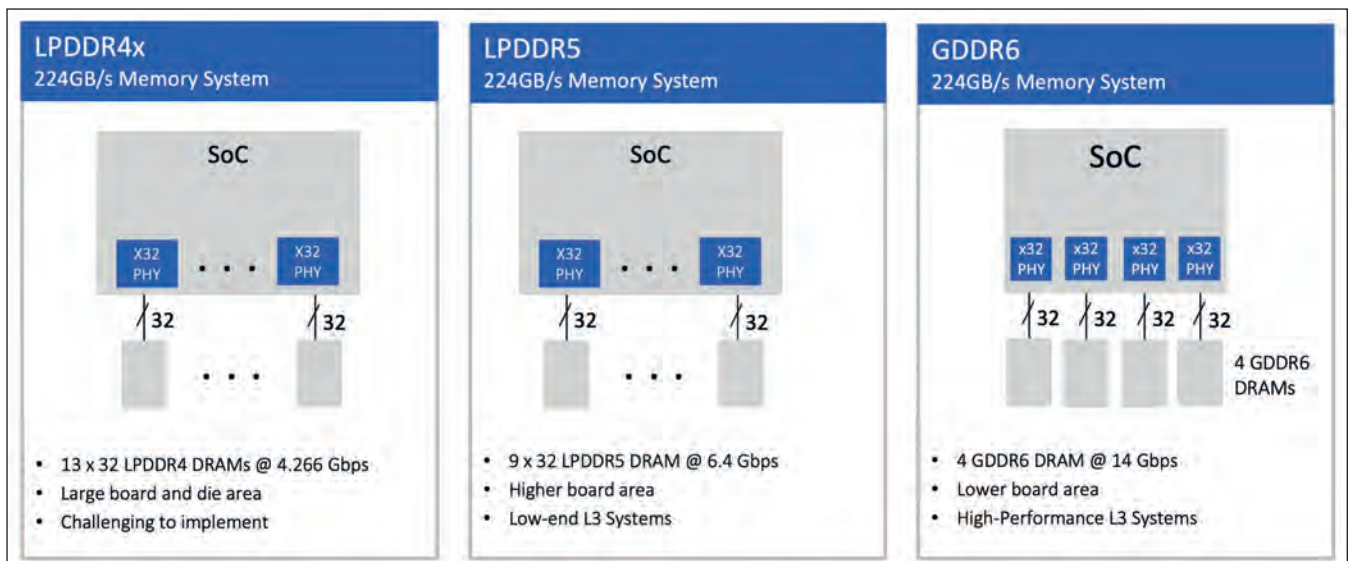

Figure 2: L3 ADAS Memory System Implementation Examples. Source: Rambus
Figure 2 provides options for memory system configurations capable of delivering level 3 ADAS implementation. Each implementation delivers 224 GB/s, meeting the level 3 requirement of 200 GB/s. With LPDDR4, 13 DRAM devices would be required, therefore demanding a large board and die area that poses practical challenges.
Figure 2. Intel has produced the first GaN transistors on a 300 mm silicon (111) wafer in one of its leading CMOS fabs. Its researchers have employed a new technique of three-dimensional monolithic integration by layer transfer to stack silicon PMOS transistors on top of GaN NMOS transistors to enable CMOS functionalities, for the first time in industry.
One of the successes that has come from our efforts is the fabrication of the first high-performance GaN transistors on 300 mm silicon (111) wafers (see Figure 2). We make these transistors with a 300 mm process technology that is compatible with leading CMOS fabs.